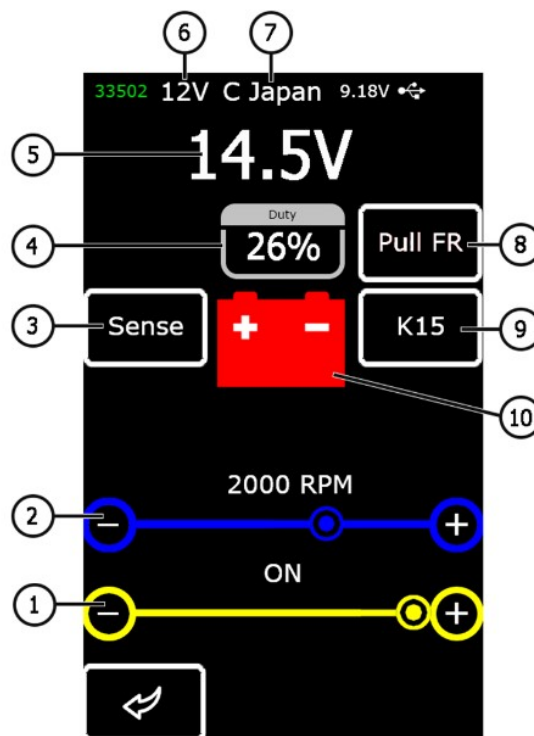

Figure 10 - Diagnostic screen information
Upon entering the test mode for voltage regulators, the following information will appear on the screen (Fig.10):
- 5) Assessment of the voltage regulator capability to adjust to the preset stabilizing voltage. Use a cursor (Fig.10, n.1) to set the voltage.